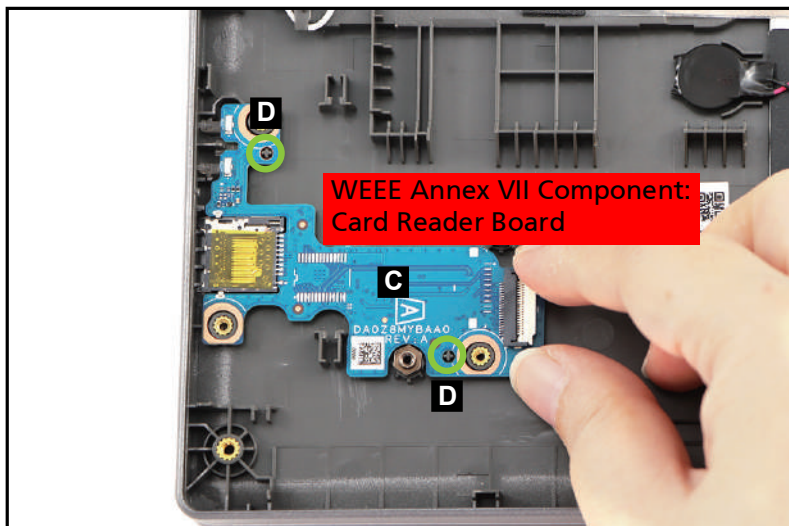

Figure 3-55. Card Reader Board Removal
- Release the card reader board (C) from the card reader slot and guide pins (D) (Figure 3-55). Then remove the card reader board.